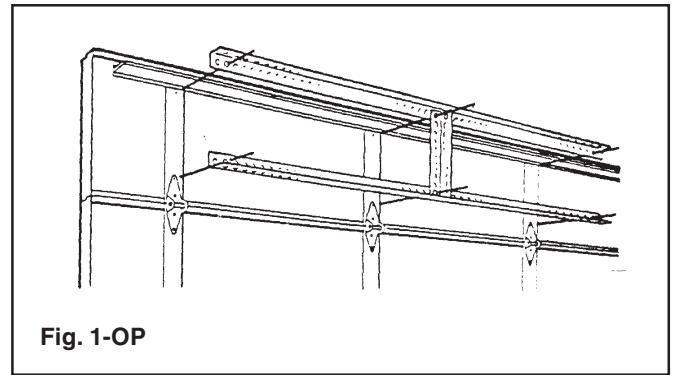
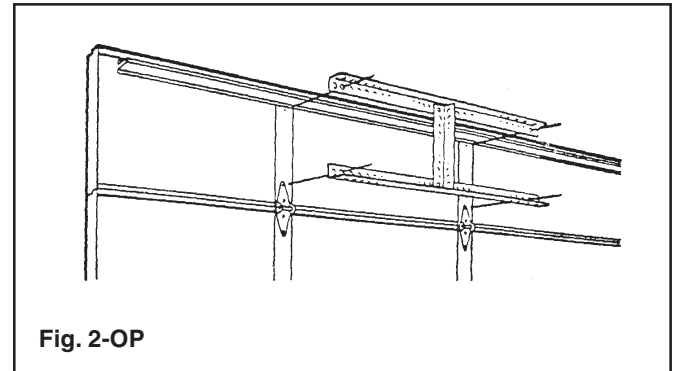
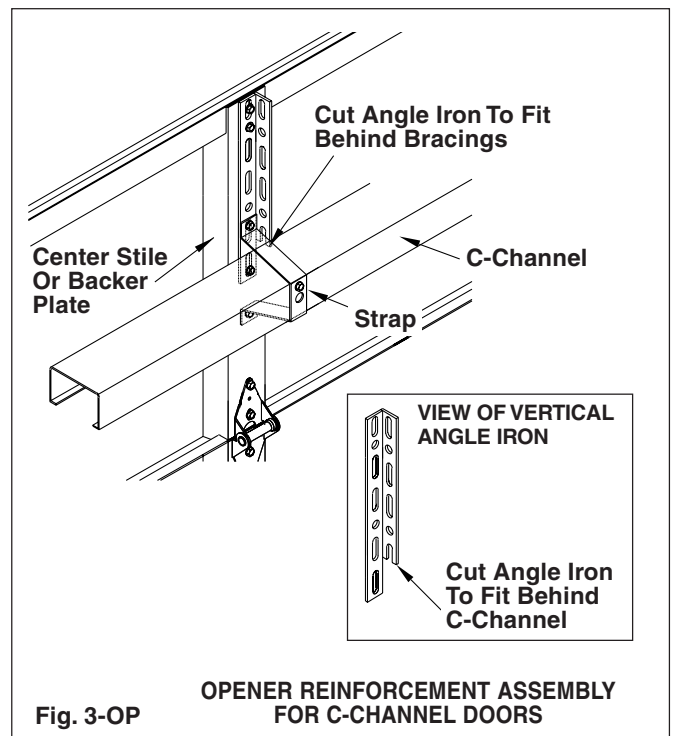

Fig. 1-OP
Fig. 2-OP
Fig. 3-OP
- Place remaining 8 ft. piece across the top of the section, bridging across the same three stiles as the bottom angle. Attach with fasteners similar to ones used with the hinges. One fastener per stile. If your door has a strut at the top of the section, remove the bottom strut clips and overlap the flange of the strut with the angle iron to secure the bottom of the strut. Attach angle using the fasteners removed with the strut clips. (FIG. 1-OP) Refer to Figure 3-OP for C-Channel.
section, remove the bottom strut clips and overlap the flange of the strut with the angle iron to secure the bottom of the strut. Attach angle using the fasteners removed with the strut clips. (FIG. 2-OP)
- Cut the 24" piece of punched angle iron to span from top horizontal angle to bottom horizontal angle. Place vertical angle directly in the center of the door. Attach vertical angle to both the top and bottom horizontal angles with two $\frac{3}{8}$ " nuts and two $\frac{3}{8}$ " bolts. Refer to Figure 3-OP for C-Channel.
1. Place two rollers in the tubes as shown. On some doors it will be necessary to try various roller positions to achieve the proper hinge location on the door. (FIG. 1-LHR)
NOTE: Proper alignment of the pass door frame is critical for smooth operation of the pass door. After stacking the bottom section, measure the pass door frame opening at the top and bottom of the frame (Figure 3-PD). If this measurement is not exactly the same, the bottom section will need to be shimmed or clamped so that the frame is aligned.
See Figure 1-PD (Deep Ribbed Steel Doors) or Figure 2-PD (Double Skinned Insulated Doors) for diagram of pass door showing hinge and closer locations. The strut schedule for pass doors follows the strut schedule on page 9, minus 2 struts.